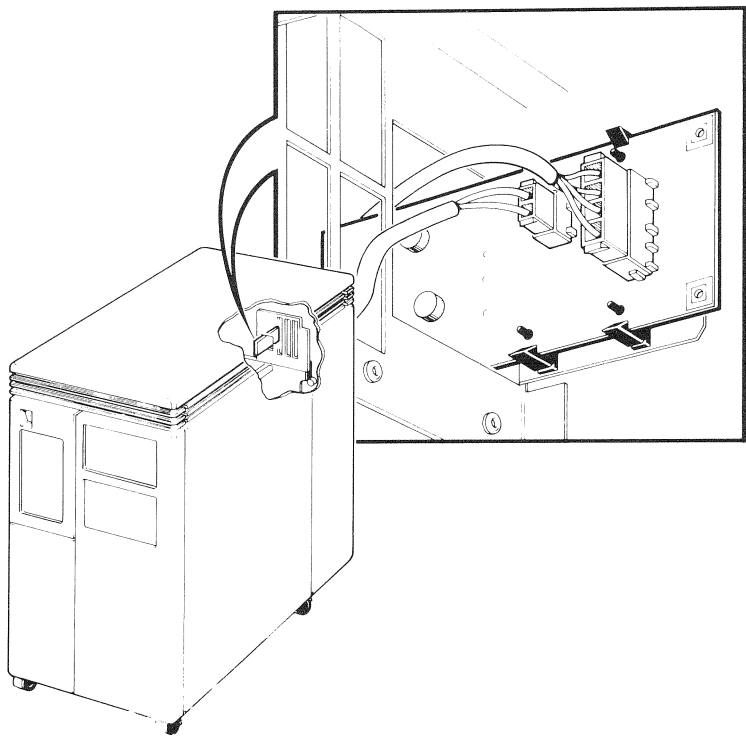

Figure 9-4 Temperature Sensor PC Board
A Printed Circuit (PC) board above the card cage contains two temperature sensors (Figure 9-4):